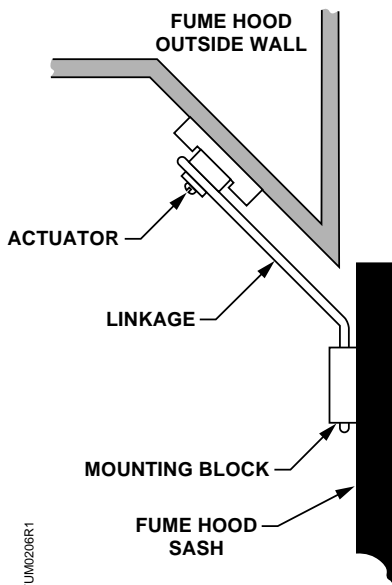

Figure 8. Linkage on 45° Angle.
5. **For sensors mounted at a 45° angle.** Grip *both* wires of the linkage with the adjustable wrench and bend the linkage at a 45° angle on the mark so that the linkage is parallel to the sash. See Figure 8. Skip to Step 8.